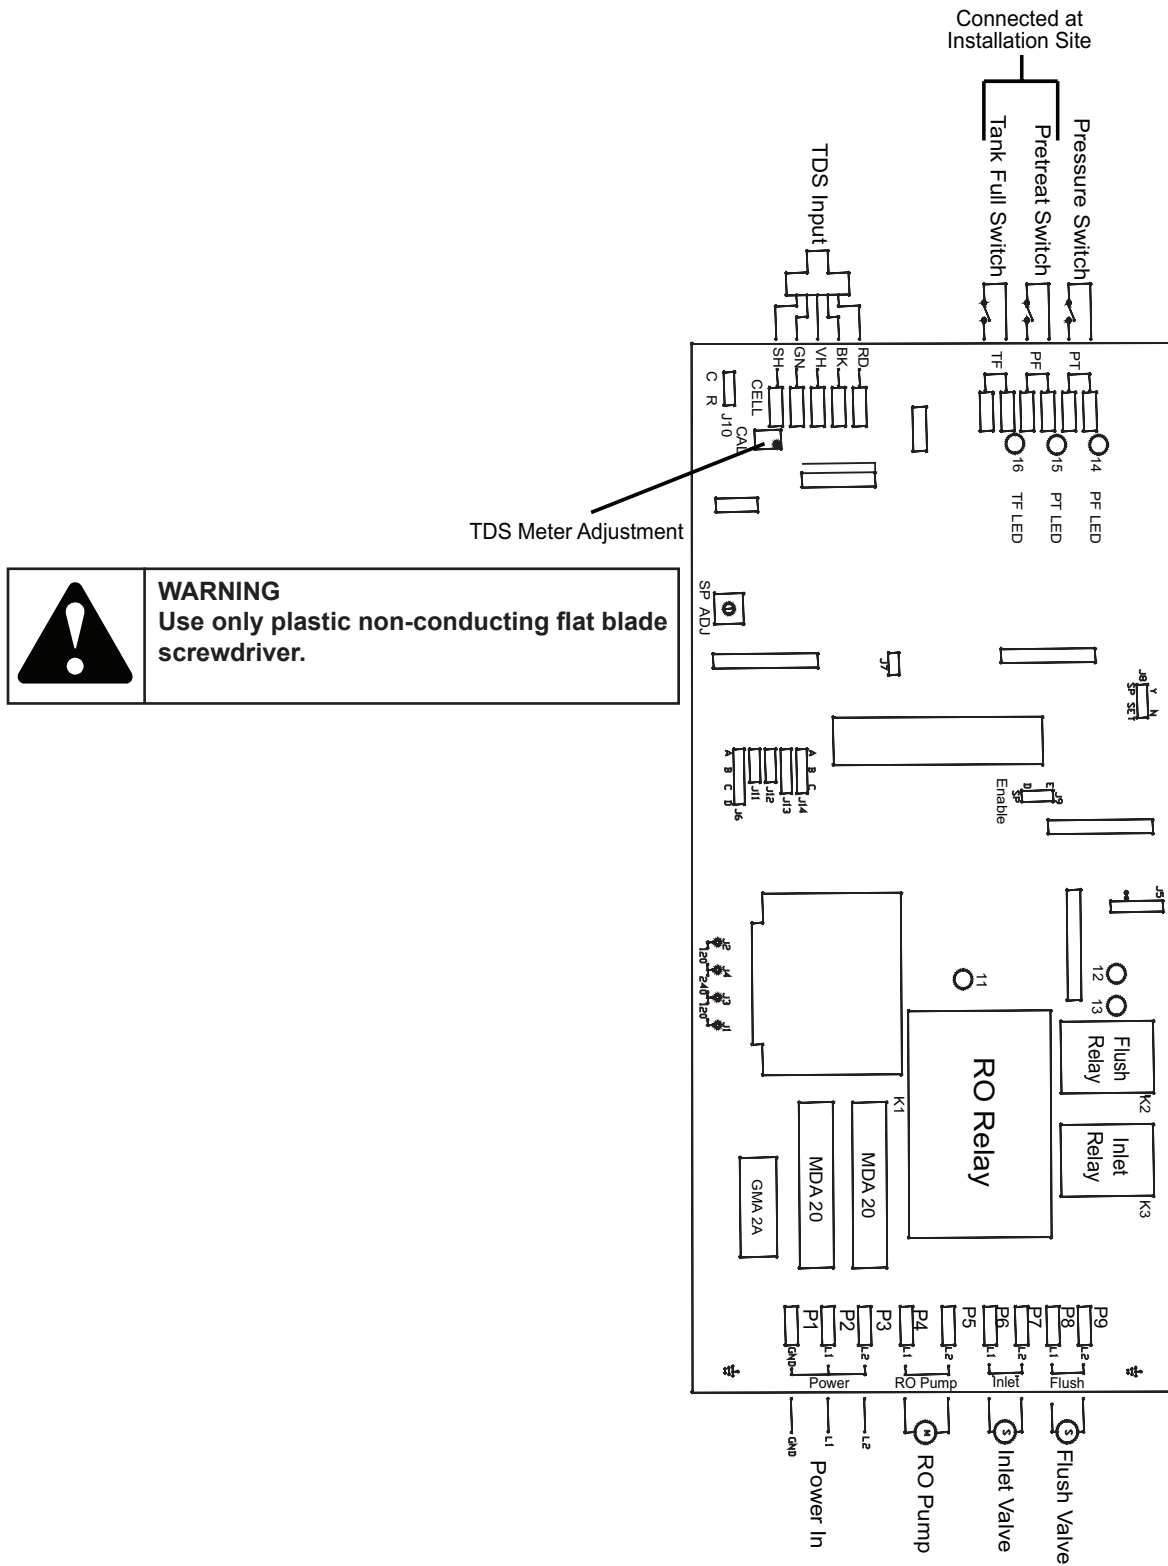

Figure 2 Deluxe RO Circuit Board
4. If using external tank level, and pretreat lock-out switches, connect "normally open" switches to tank level (TF), and pretreat lock-out (PF) on appropriate terminals on circuit board for non-powered, dry contact control (Figure 2). The pretreatment inputs must be wired in parallel. The terminals are located in the upper right corner of the control panel box when viewed from the back. Use small gauge, 2 conductor wire connections, see Figure 2. The back of the control panel will need to be removed and the power to the system turned off. Confirm that the two input signals (tank level switch and pretreat switch) are all normally open dry contacts. Systems with pretreatment can have a normally open contact switch wired to the control. This switch should operate (close) when the pretreatment device is out of service. This switch must not supply voltage. Be sure to coil and leave some slack wire inside the enclosure.
10. The power cord is located on the lower left of the control panel when viewed from the back. If using the installed power cord, replace the back panel of the control box. If a longer cord needs to be installed, connect the new power cord to the board first per the circuit diagram Figure 2, AC power for the unit is connected to terminal strip P1. Connect the ground wire of the AC power to P1 (GND). For AC power with a neutral and hot wire, the hot wire connects to P2 (L1) and the neutral wire connects to P3 (L2). For AC power with 2 hot wires, either wire can connect to L1 and L2. Replace the back panel. Make appropriate electrical connections with fused disconnect or Ground Fault Protection. Use 20 amp service 240 VAC, single phase, for the 1 hp 1-3 membrane systems and for the 2 hp 4-6 membrane systems. Turn on the electrical power to the RO system and go through start up procedure.